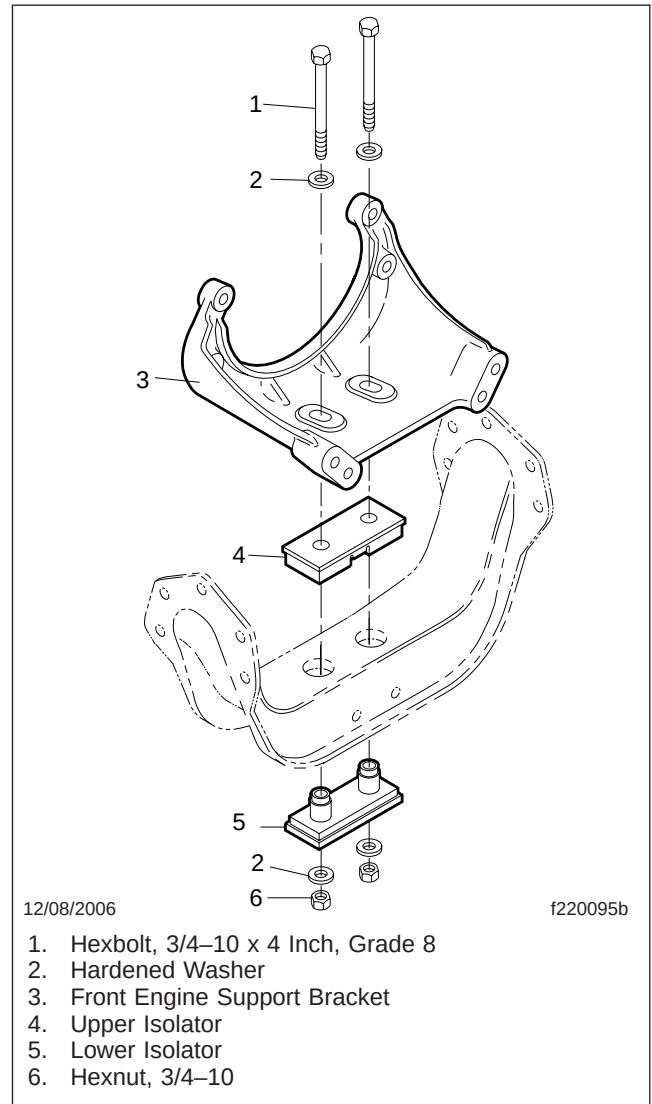

Fig. 1, Front Engine Mount Assembly, Detroit Diesel Series 60 Engine
2. Disconnect the engine from the front engine mount as follows. See Fig. 1.